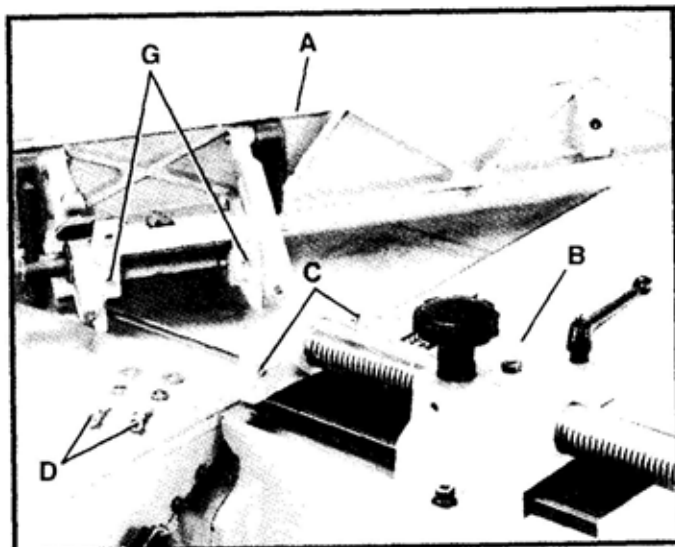

Fig. 17
1. Align two threaded holes (G) Fig. 17, in fence (A) with two holes (C) in fence carriage (B) and fasten fence to carriage assembly with two M8 × 25mm hex socket head screws, lockwashers, and flat washers (D).